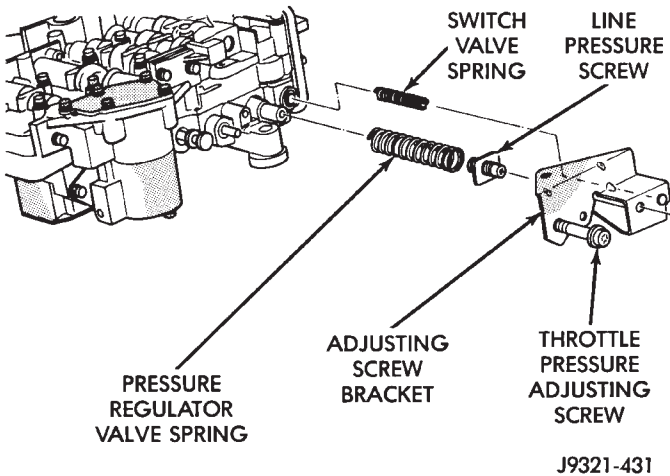

Fig. 78 Adjusting Screw Bracket And Spring
(19) Remove adjusting screw bracket, line pressure adjusting screw, pressure regulator valve spring and switch valve spring (Fig. 78). **Do not remove throttle pressure adjusting screw from bracket and do not disturb setting of either adjusting screw during removal.**